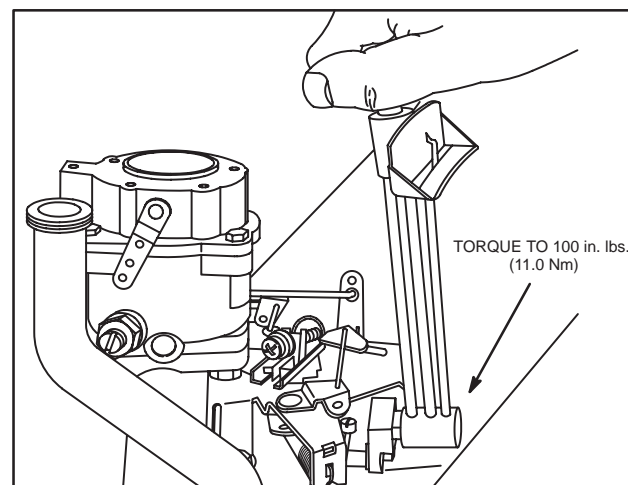

Fig. 25 – Static Governor Adjustment
2. Rotate governor shaft counter-clockwise as far it will go, Fig. 25.